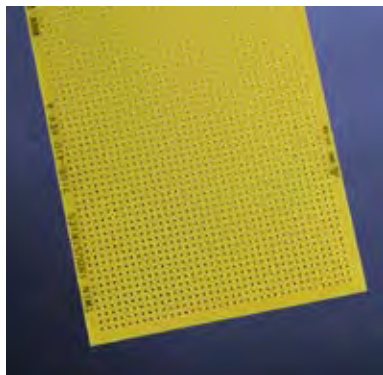
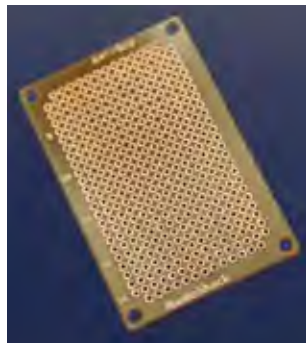

Figure 3-70
Figure 3-71. Either this type of perforated board or the type in Figure 3-70 can be used for point-to-point wiring in Experiment 14.
1. Point-to-point wiring. You use perforated board that has no connections behind the holes. Either the board has no copper traces on it at all, as in Figure 3-70, or you will find a little circular copper circle around each hole, as in Figure 3-71. These circles are not connected with each other and are used only to stabilize the components that you assemble.